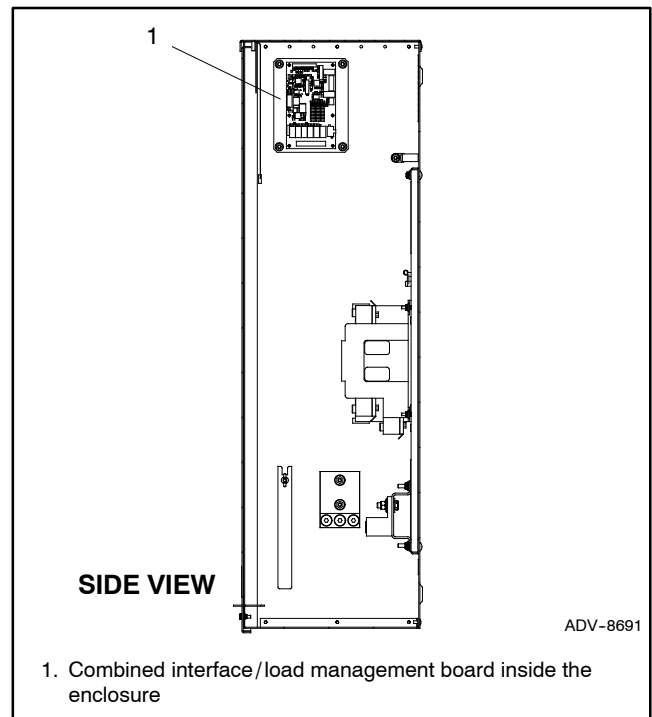
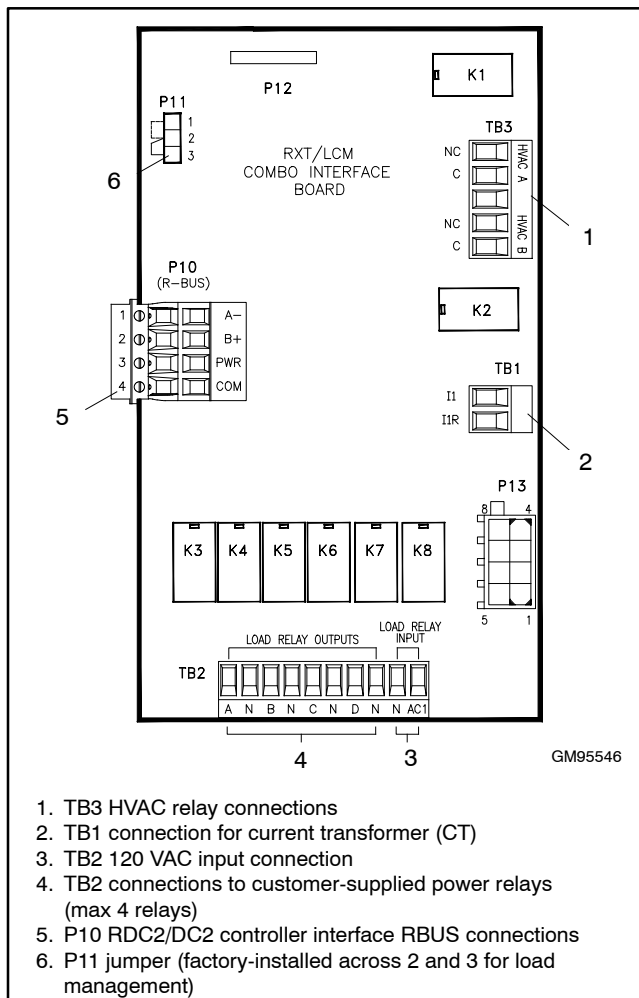

Figure 2-16 Typical Interface Board Location
Figure 2-18 Combined Interface/Load Management Board Customer Connections
7. RBUS connections: Connect the controller interface connection to A, B, PWR, and COM on terminal block P10 on the interface/load management board. See Figure 2-16 and Figure 2-18. The RBUS connections to the generator set controller are the same for the standard interface board and the combined board. See Section 2.6 for interface connection instructions.
8. Connect the CT leads to connector TB1 on the interface/load management circuit board. Extend the leads, if necessary, using customer-supplied wiring. See Figure 2-18 and/or the wiring diagram in Section 6 for the connector location.
11. Verify that the jumper is installed across P11-2 and P11-3 on the combined interface board. See Figure 2-18.
12. Connect HVAC loads to TB3. See Figure 2-18. Note the priorities of HVAC A and HVAC B relative to Loads A through D. See Figure 2-19 and Section 2.7.3.
6. Find the combined interface/load management board, which is typically mounted on the upper left side of the enclosure. See Figure 2-16, if necessary.